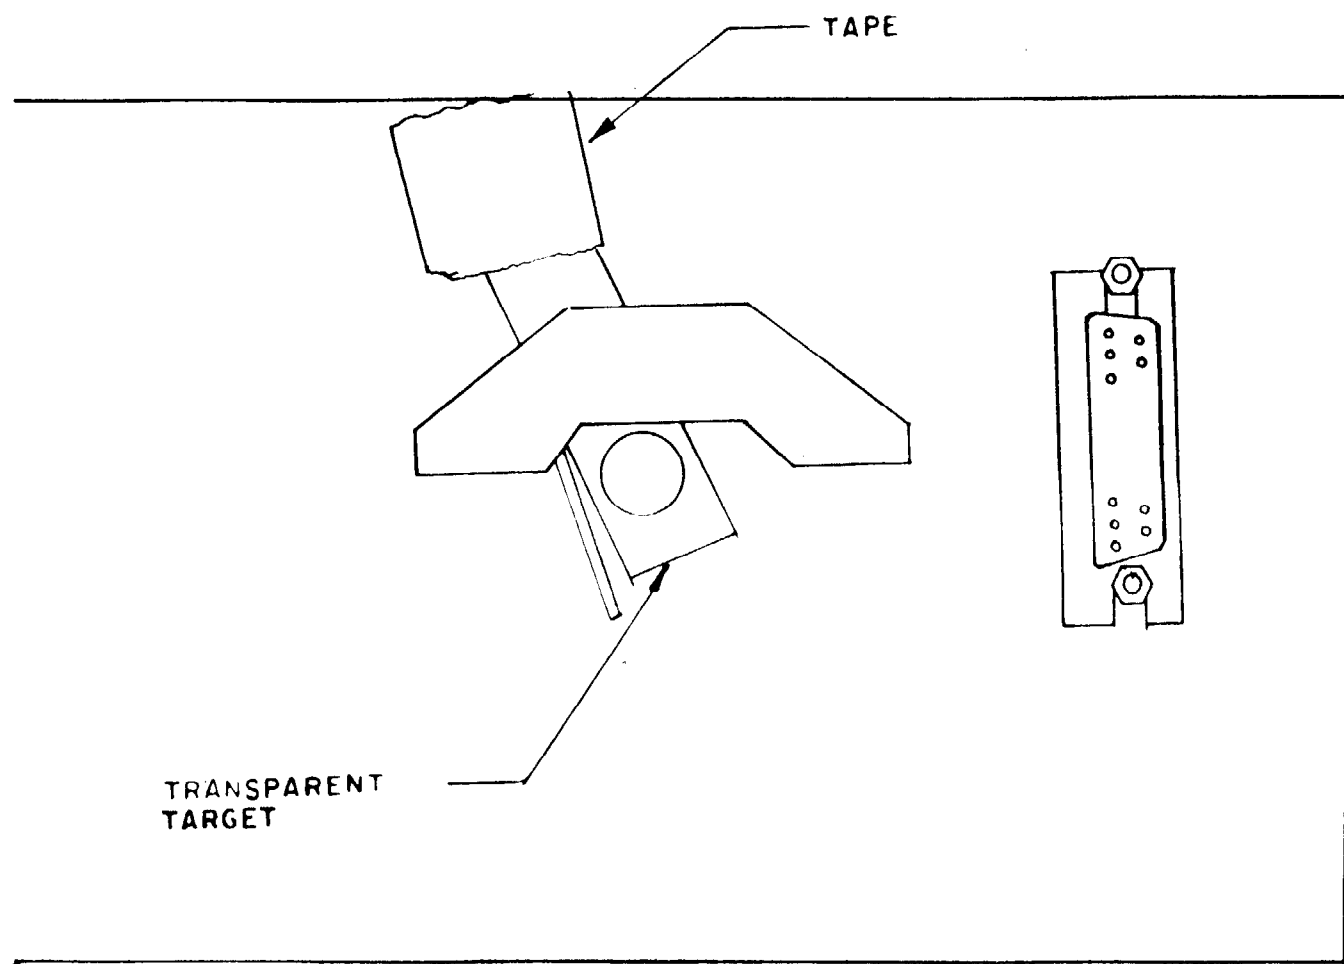

FIGURE 1
7. Position the transparent target over the mirror, and tape down the opposite end (see figure 1).